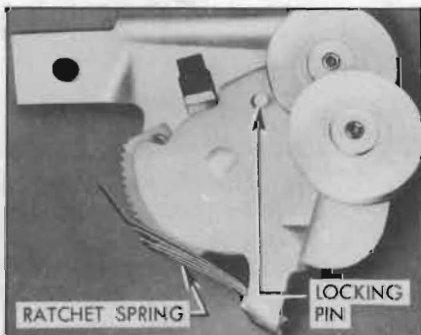

Figure 13-16—Cable Tensioner (Right)
5. Apply slight pressure to cable tensioner ratchet spring, then rotate pulley support plate until a  $\frac{1}{8}$ " pin can be inserted through the holes in plate and bracket to remove spring pressure from the cables. See figure 13-16. Disconnect cables from drive shaft lever.